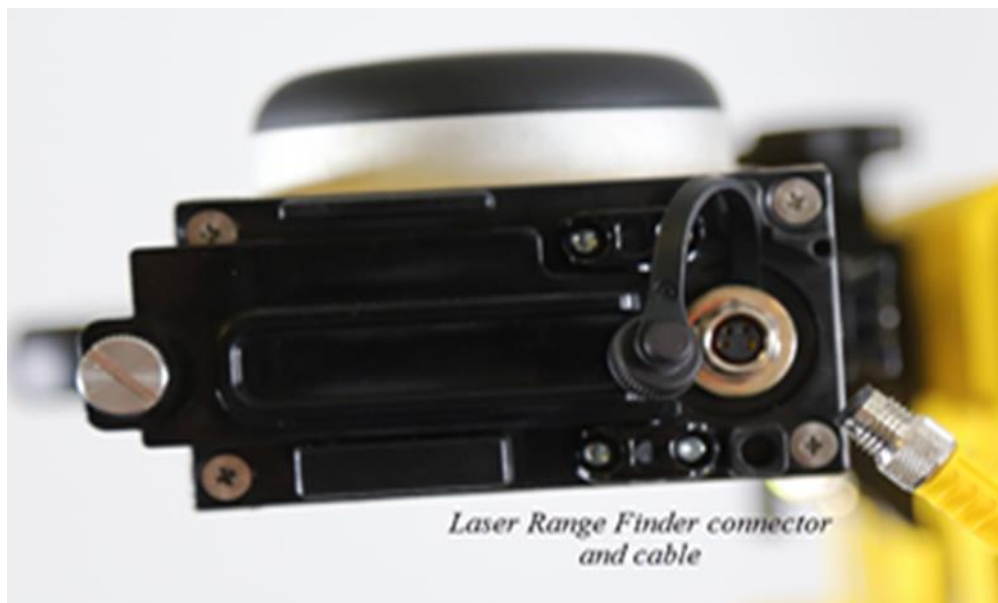

Figure 27
1. Connect LRF cable to LRF and MW15/MW08 (cable connector at the end of MW15/MW08 under round plastic cap). Note that the pins are small, so use care not to damage the cable. **See Figure 27**